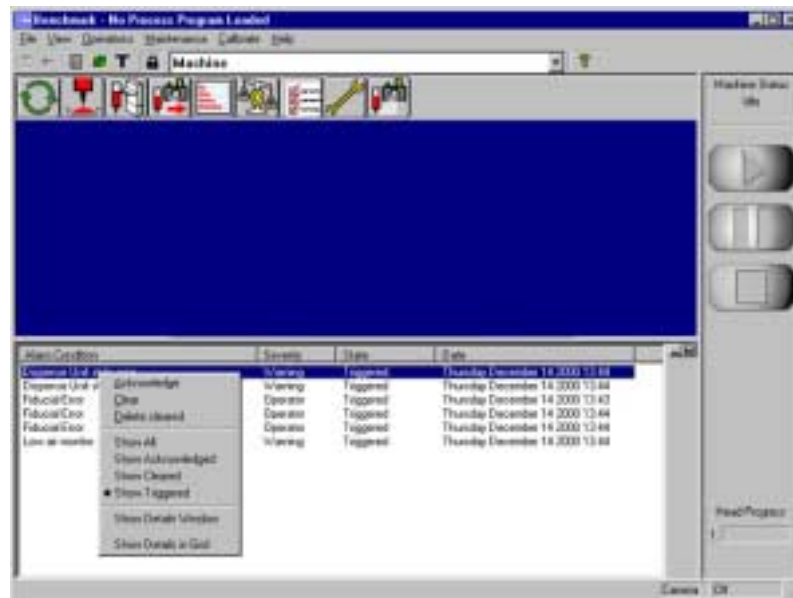

Figure 2-3
1. Click the right trackball button to display the **Alarm Status** popup menu. See Figure 2-3.